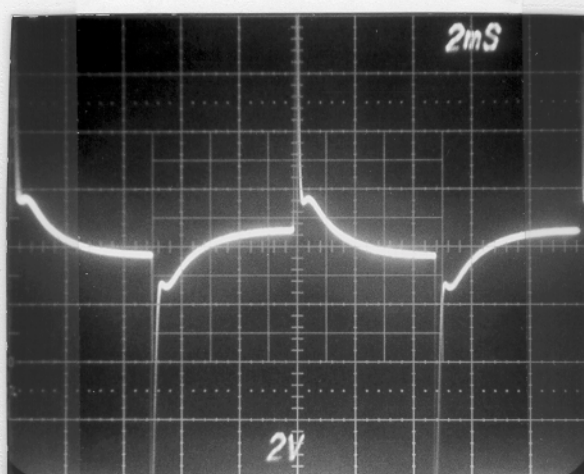
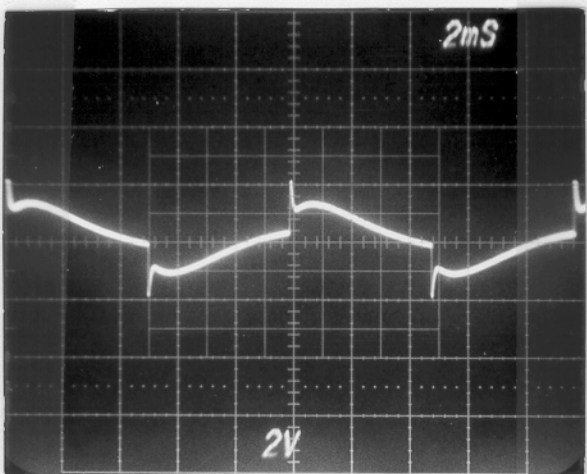

Fig. 4. Hi-Mid to 10.
Fig. 5. Hi-Mid to 0.
- B) Hi-mid to 10- Fig. 4; Hi-mid to 0- Fig. 5